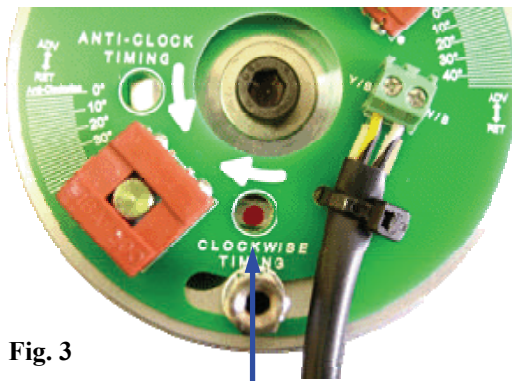

Fig. 3
21. Hold the ignition trigger assembly in the contact-breaker housing, positioned midway on its adjustment slots (the slots will normally be positioned at approximately 6 and 12 o'clock). Turn the magnetic rotor by hand until the red indicator dot aligns under the appropriate static timing hole in the trigger. This must be done without turning the engine. The appropriate timing hole is determined by the direction of rotation of the camshaft. The timing holes are marked on the trigger “Clockwise Timing” & “Anti-Clock Timing”. See figs. 3 & 4 (page 9). For the Norton Commando, the magnets should be lined up approximately horizontal with the “Norton” stamp on the timing casing of the engine. To determine the correct timing hole for your machine, see Table 1 (page 8).